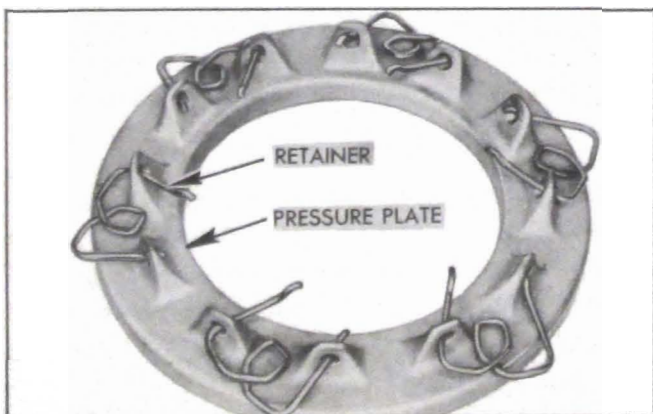

Figure 4-11—Positioning Spring Retainers
2. Install spring retainers through holes in pressure plate, with curves on ends upward, one end in toward center of plate and the other end out from center as shown in figure 4-11.